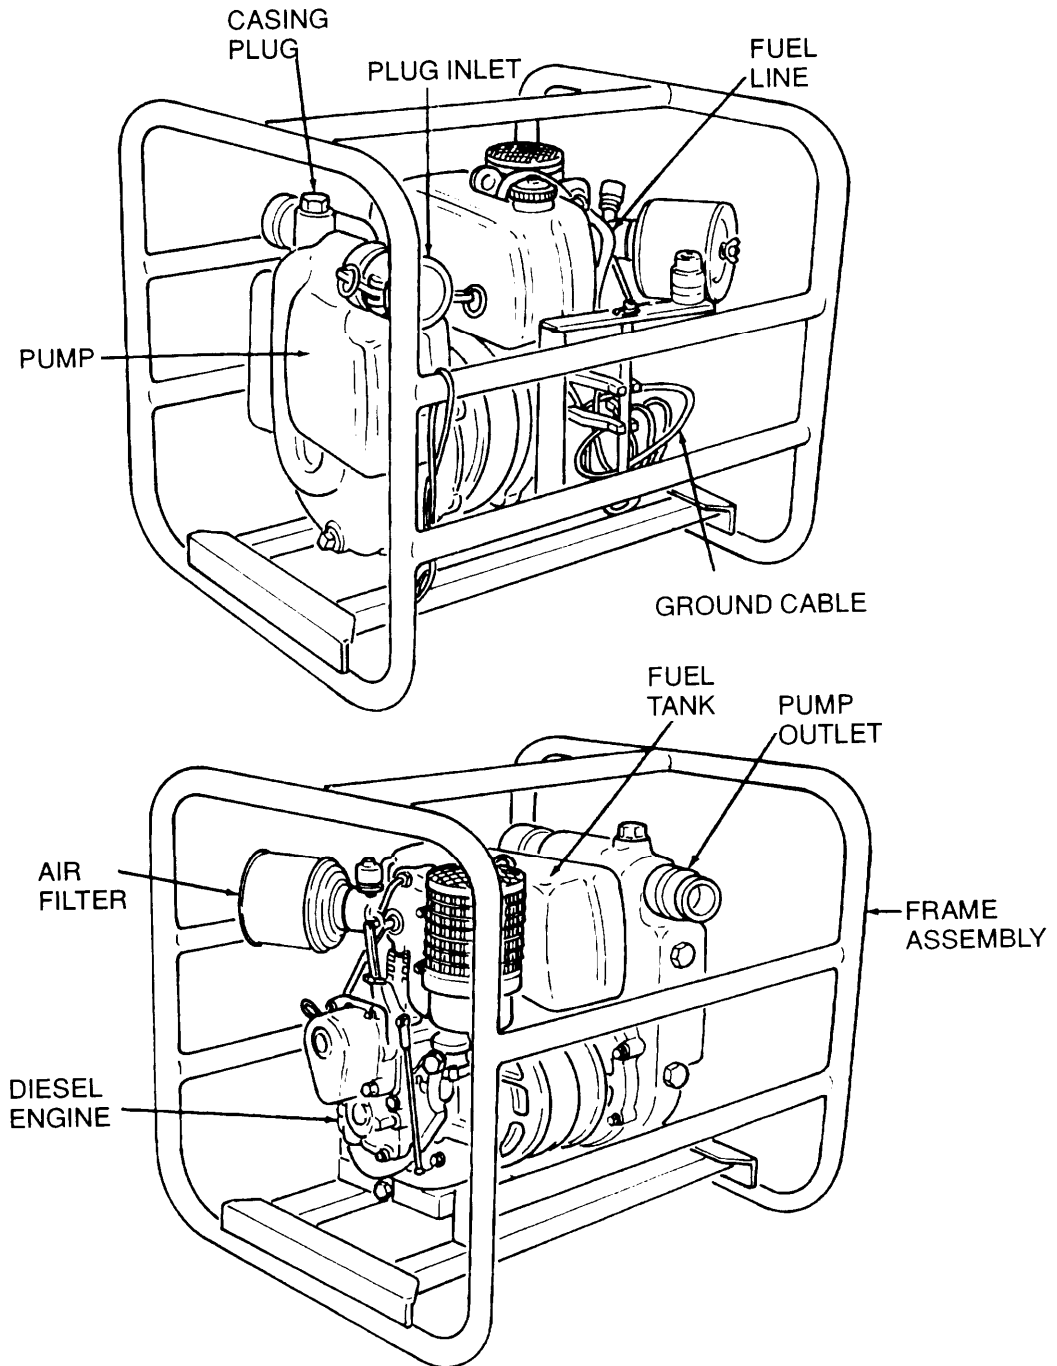

Figure 1-4. Pumping Assembly.
b. Pumping Assembly. (Refer to Figure 1-4)
- (1) The pumping assembly consists of a diesel engine and pump, and is capable of pumping fuel at 100 (378.5 liters) gpm.
- (2) Refer to TM 5-4320-313-14 for maintenance of the pumping assembly.